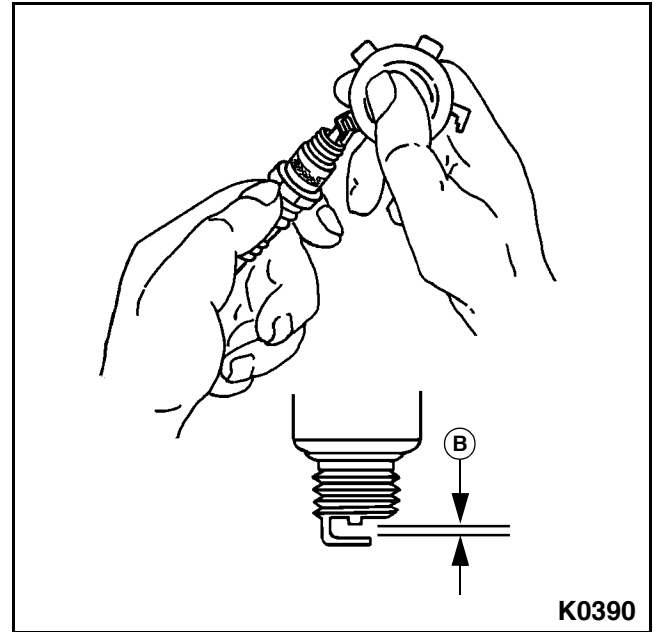

Figure 5-23
6. Use a spark plug gap tool to measure the gap (B) on each new spark plug. Adjust the gap to specification. **See Figure 5-23.**